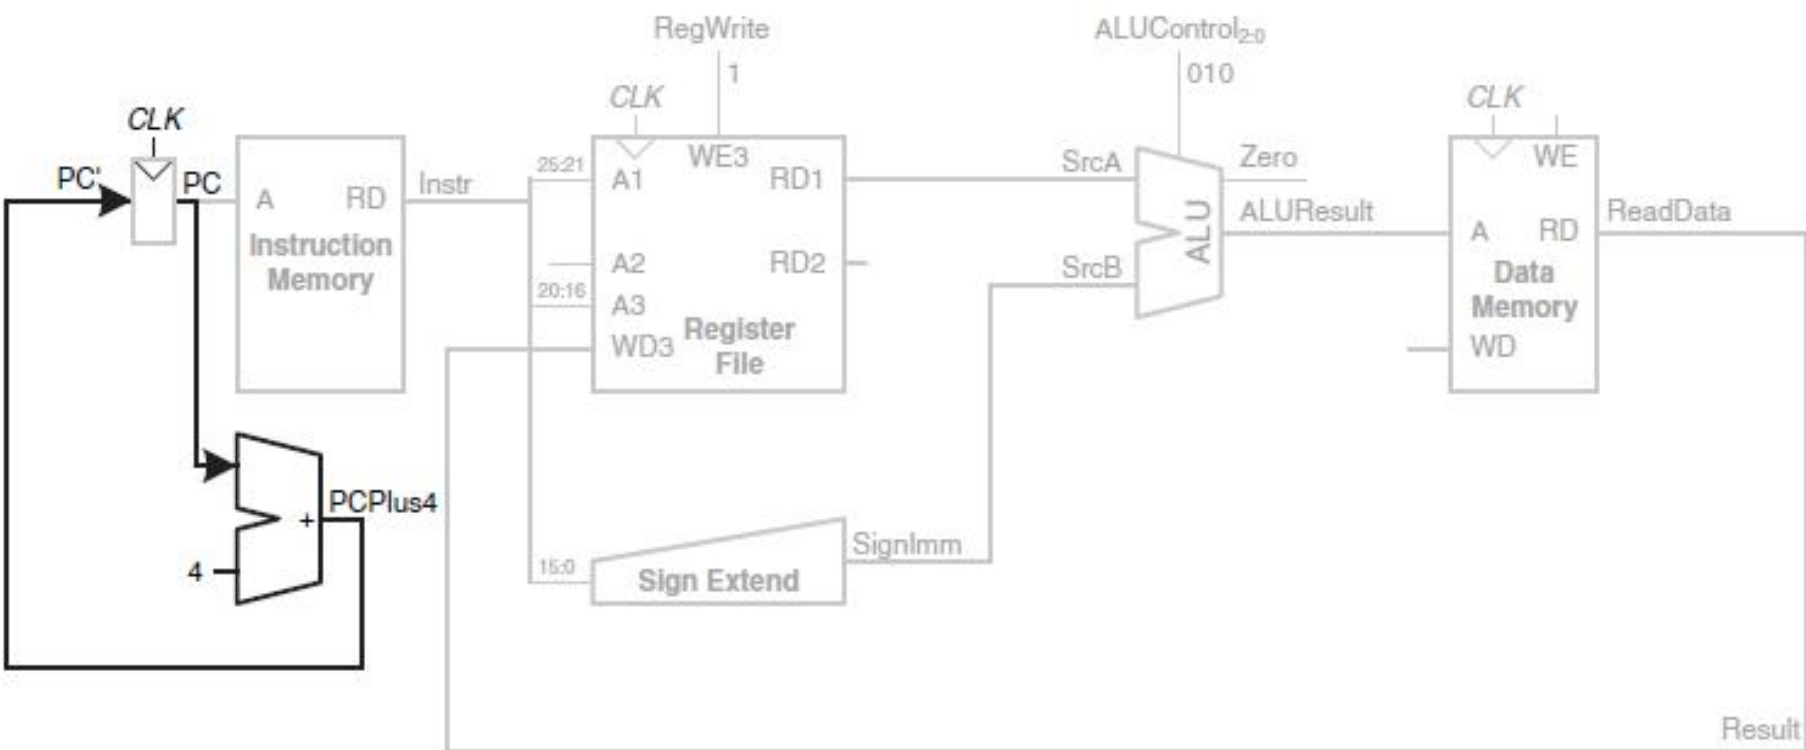

Figure 7.7 Determine address of next instruction for PC
- While the instruction is being executed, the processor must compute the address of the next instruction, PC'. Because instructions are 32 bits = 4 bytes, the next instruction is at PC + 4. Figure 7.7 uses another adder to increment the PC by 4.